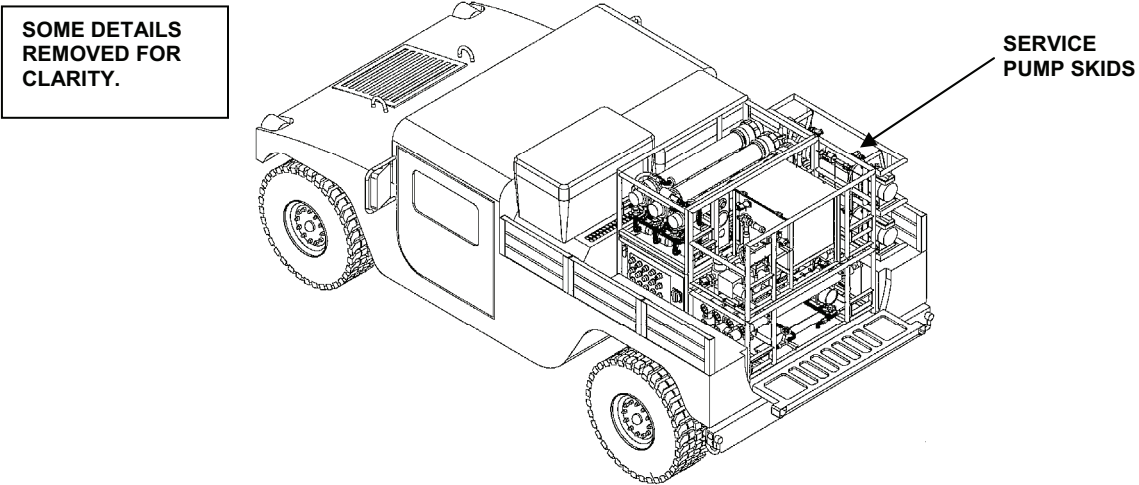

Figure 14. Loading Service Pumps Skids.
23. Load the upper and lower service pump module skids on the right wheel well of the HMMWV. Load the upper and lower skids independently of each other. Insert lock pins into appropriate holes in skid frames. Secure skids together with lock pins. See Figure 14.